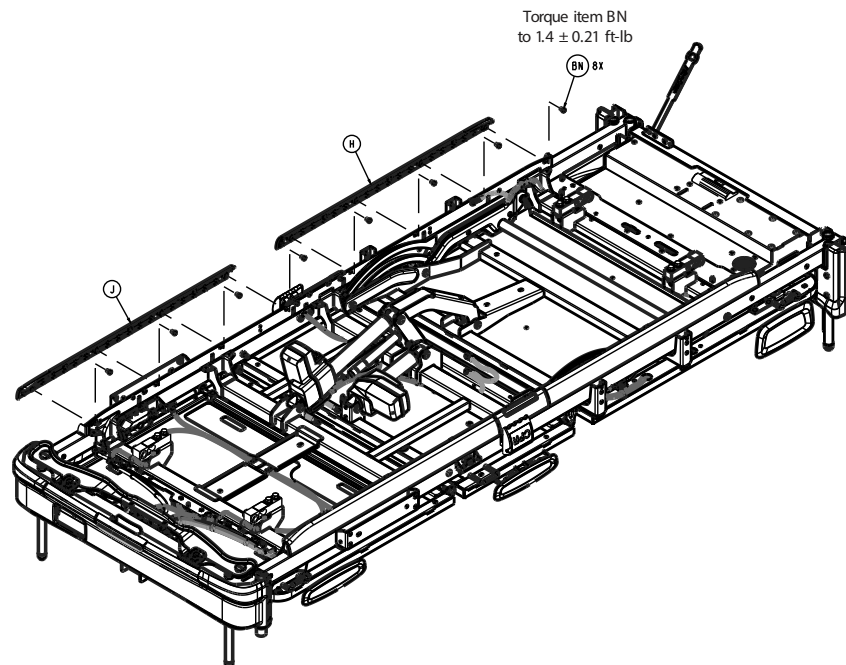

Figure 61 – Removing the cover
7. Using a T25 Torx driver, remove the four screws (BN) from the litter cable rail cover (H, J) on the foot end (Figure 61). Remove the cover. Save the screws and cover.